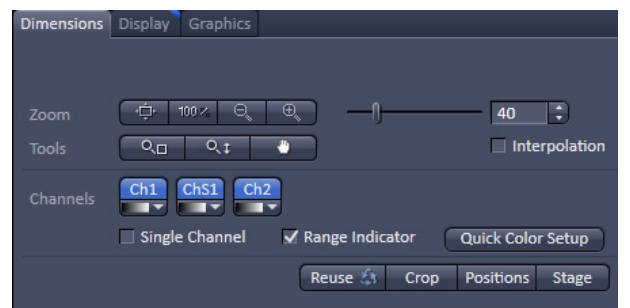

Fig. 23 View Dimensions Control Block
- In the **View – Dimensions** View Option Control Block, activate the **Range indicator** check box (Fig. 23).